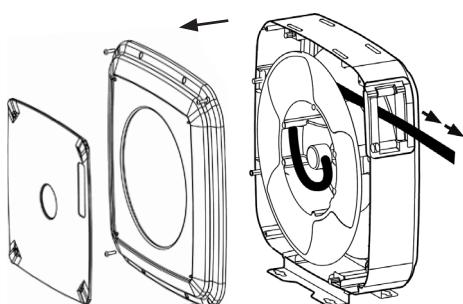

FIG 11.
1. Disassemble one side of the hose reel and pull the hose out 3 m (10 feet) and let the hose get latched (Fig. 11).
1. Disassemble one side of the hose reel and pull the hose out 3m (10 feet) and let the hose get latched (Fig. 11).
1. Demontera ena sidan på slangrullen och dra ut 3 m av slangen och spärra rullen (Fig. 11).